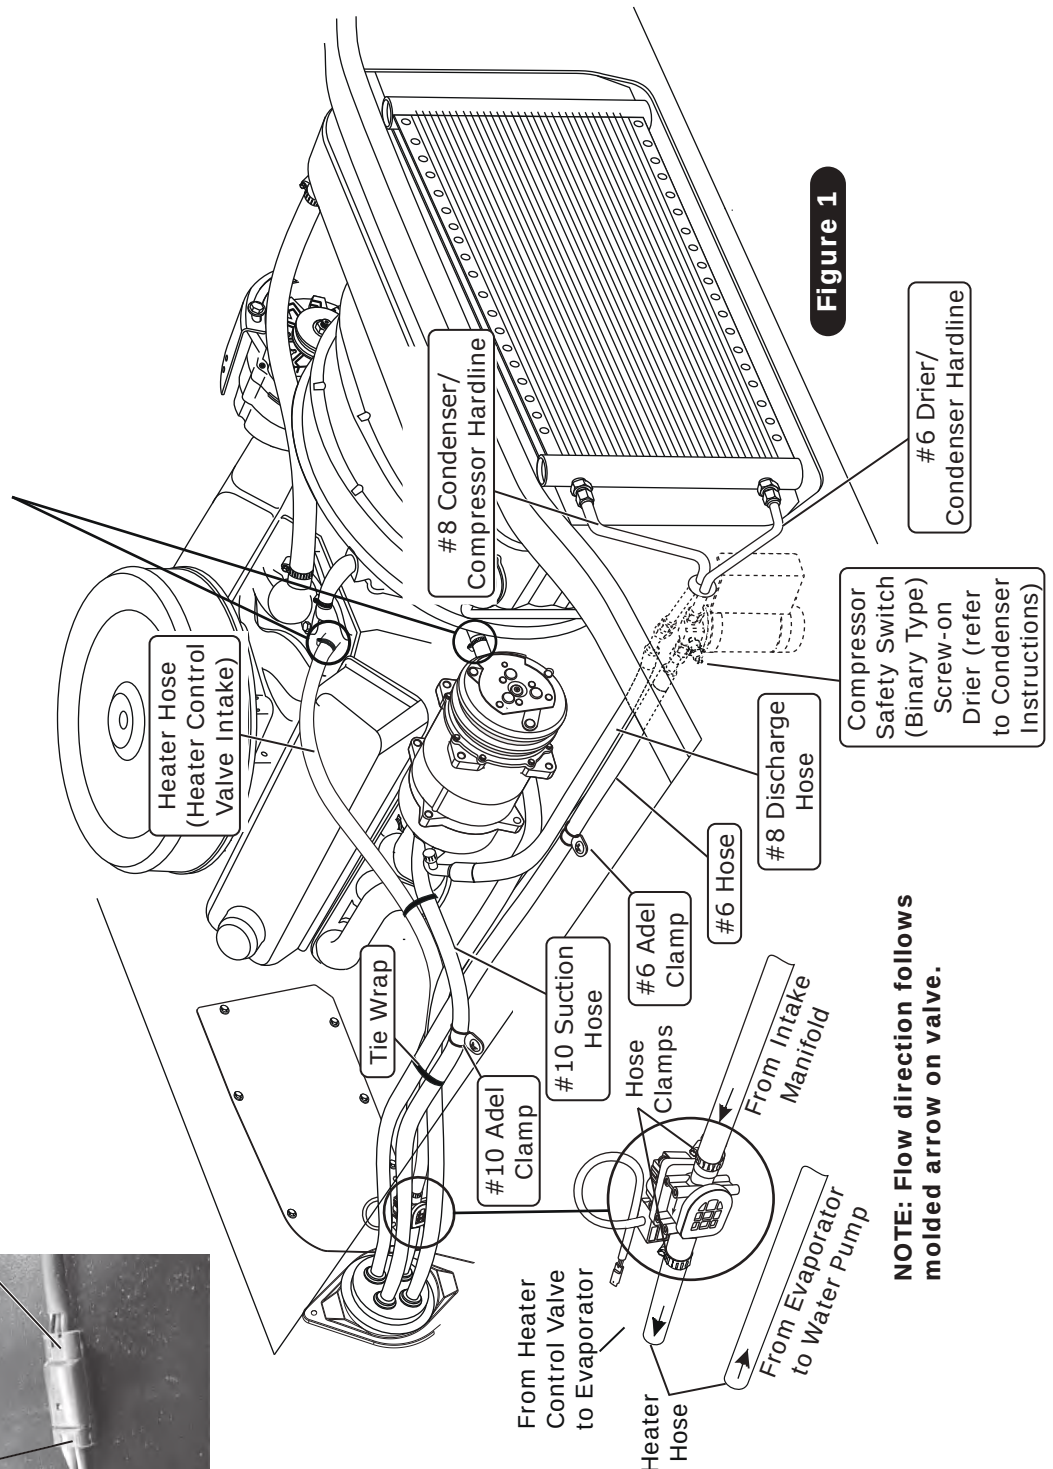

Figure 1
1. Route a piece of heater hose from the water pump to the top heater fitting of the heater core as shown in Figure 2, Page 13, and Figure 1, below. Secure using hose clamps.
2. Route a piece of heater hose from the intake to the bottom heater fitting of the heater core as shown in Figure 2, Page 13, and Figure 1, below. **NOTE: Install the heater control valve in line with the intake manifold (pressure side) heater hose, and secure using hose clamps as shown in Figure 1, below. Also note proper flow direction.**